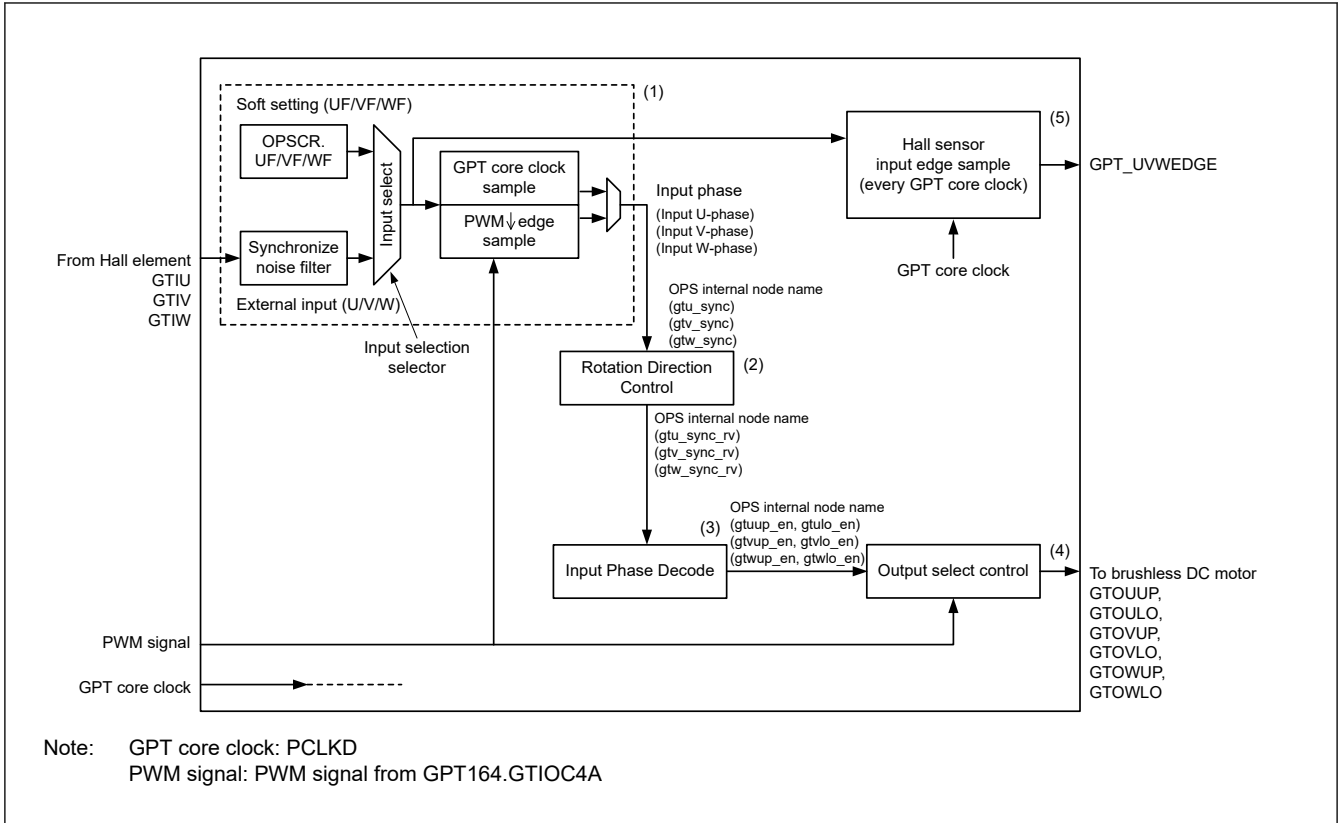

Figure 20.55 Conceptual diagram of GPT\_OPS control flow
Figure 20.55 shows the conceptual diagram of GPT\_OPS control flow.
In the GPT\_ OPS control flow conceptual diagram shown in Figure 20.55, (1) is a selection of input phase from the software settings and external input by the OPSCR.FB bit.
In the GPT\_OPS control flow conceptual diagram shown in Figure 20.55, (3) enables the 6-phase signals by decoding the input phase selected in the OPSCR.FB bit.
In the GPT\_OPS control flow conceptual diagram shown in Figure 20.55, (2) controls the direction of rotation of a 3-phase motor using the OPSCR.RV bit.
In the GPT\_OPS control flow conceptual diagram in Figure 20.55, (4) represents the selection of the output waveform by setting the OPSCR register bit.
In the GPT\_OPS control flow conceptual diagram shown in Figure 20.55, (5) outputs the Hall sensor input signal edge to the ELC.